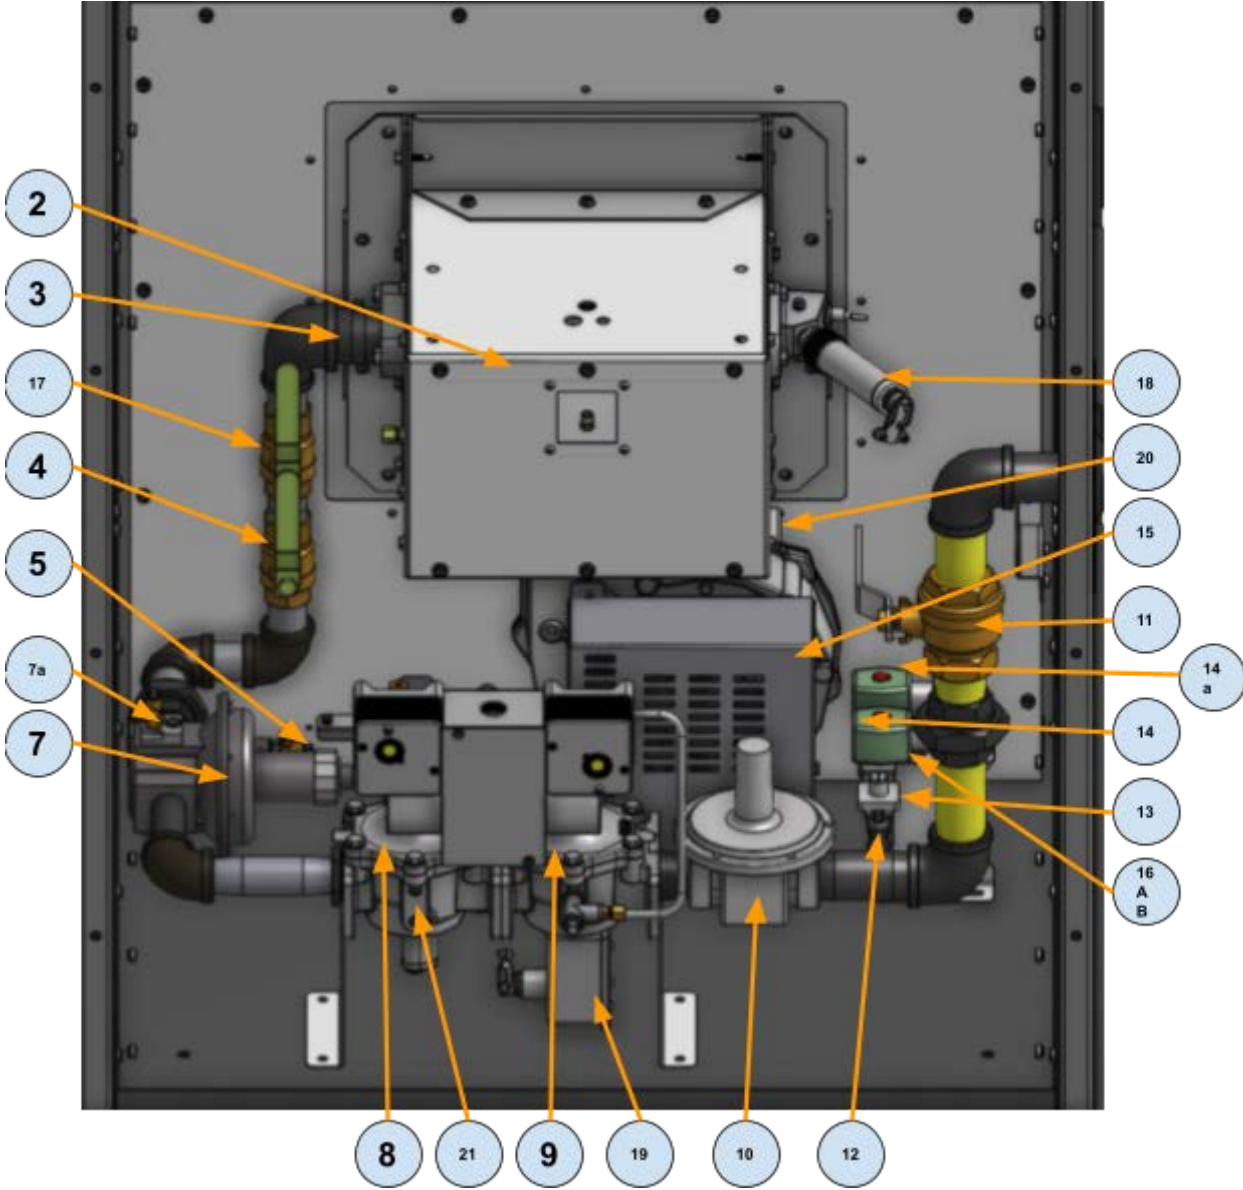

Figure GT1
3. Ensure the orifice selector valve, found in figure GT1, Item number 17 is in the correct position for your selected fuel either natural gas or vapour propane
5. Set inlet pressure to unit while off, the recommended range of 10-14 inH2O (25-35 mBar). It is important to size your gas regulation and line sizes to match the volumes of the heater. During operation, the inlet pressure must not drop below recommended range. See Figure GT1, Item 12.
- b. Open the supply tap for 5–10 seconds (item 12). More purge time may be required depending on the gas system design, sizing, and length of new installation
- a. With the burner and fuel off, install a barb fitting on the 1/8" NPT pressure tap downstream of the pilot regulator, this tap is located on the side of the solenoid valve, always pull from the downstream solenoid closest to the burner pilot (See Figure GT1, Item 14)
- a. Open the manifold manual valve (item 4)
- c. Use the sight glass on the burner to view the low fire. If flame is visible through all holes in the burner plate, the lowfire is set within the range of operation of the burner. Use the sight glass on the back plate of the burner to look at the low fire. If light is visible through all of the holes in the burner plate, the low fire is set within the range of operation of the burner. If light is not visible through all of the holes, then the low fire is too low and the low fire bypass located on the side of the ratio regulator, see Figure GT1 item 7a, needs to be opened (counter-clockwise to open, clockwise to close).
- b. Use a manometer to check the inlet pressure on the tee on the upstream side of the pilot regulator, see See Figure GT1, Item 12
- d. Plug the upstream tee and or use another manometer to check the main gas regulator outlet pressure on the downstream side of the downstream solenoid valve, see See Figure GT1, Item 21, this is also 1/8" NPT
- e. Set the Main Gas regulator See Figure GT1, Item 10 to be 1 inH2O lower than the upstream side. For example if the inlet is 10 inH2O, set downstream to 9 inWC.
- a. Use a manometer to check the load pressure on the ratio regulator, see See Figure GT1, Item 5
- c. Check the manifold pressure near where the valve train attaches to the burner, see See Figure GT1, Item 3
- a. With the burner off, install a barb fitting on the 1/8" NPT pressure tap for manifold pressure test point, See Figure GT1, Item 3